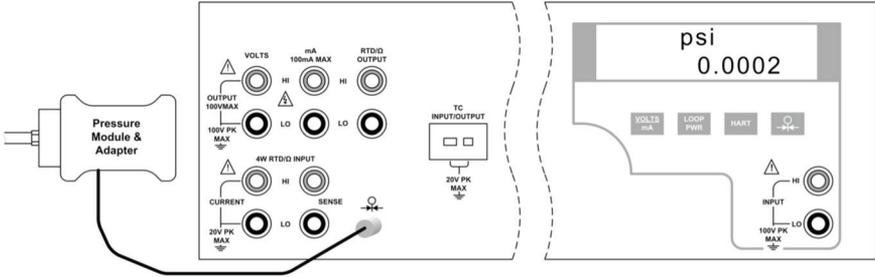

Figure 19 - Isolated Pressure Module Connection
- a) Connect the pressure module to the PD9500 as shown in figure 19.